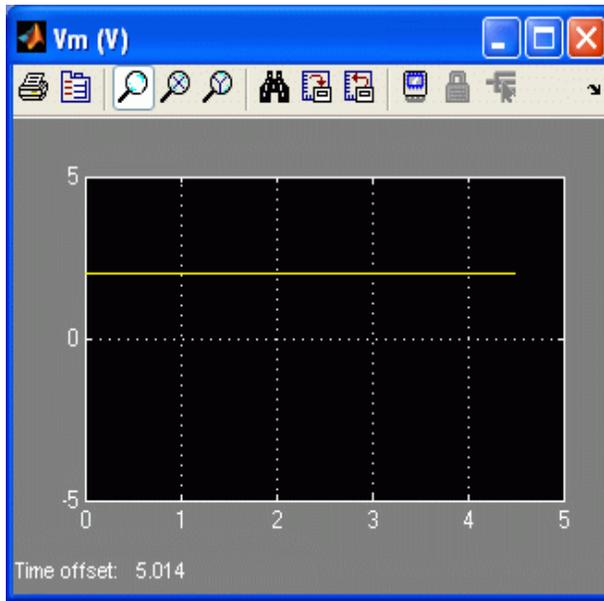

Figure 6: Constant input motor voltage.
- Set the *Amplitude (V)* slider gain to 0.0 V.
- Set the *Offset (V)* block to 2.0 V.
- Open the load shaft speed scope, w_l (rad/s), and the motor input voltage scope, V_m (V).
- Select QUARC | Start to begin running the controller. The SRV02 unit should begin rotating in one constant direction. The scopes should be reading something similar to as shown in figures 6 and 7. Note that in the w_l (rad/s) scope, the yellow trace is the measured speed while the purple trace is the simulated speed (generated by the *SRV02 Model* block).